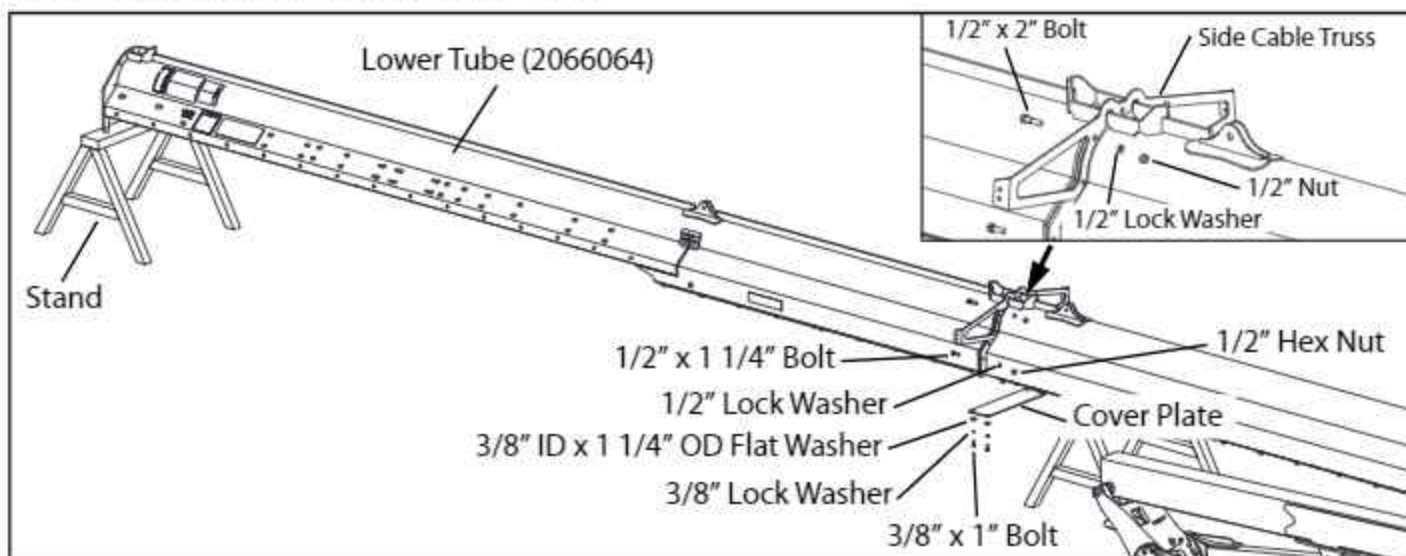

FIG. 3-4. Installing the Lower Tube - 1580
2. Place a stand where shown in Fig. 3-4. Bring in the Lower Tube Assembly. Remove any Wind Guard Plates necessary to gain access to the tube flanges.
11. Install the Cover Plate at the lower tube joint using four  $\frac{3}{8}$ " x 1" bolts, lock washers and  $\frac{3}{8}$ " ID x  $1\frac{1}{4}$ " OD flat washers. See Fig. 3-4.